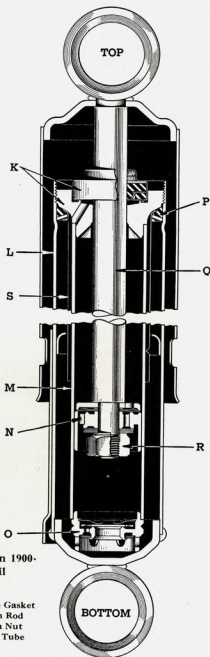

Fig. 53—One Inch Monroe Unit Used on 1900-
4. Now holding top unit in vertical position with pressure tube fully extended, fill pressure tube to within $\frac{1}{4}$ inch of top. Tap the compression valve into place. Pour the remainder of the fluid into the reservoir cylinder and before assembling the unit be sure to install a new guide gasket "P," which has been dipped in fluid, under the rod guide. Make sure the flared end of the baffle tube "S" is in place between the rod guide "K" and the gasket "P", Fig. 53.